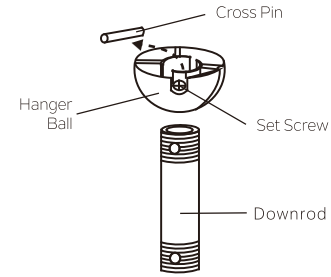

Fig. 7
**Step 5.** Remove the hanger ball from the downrod assembly by loosening the set screw, unscrewing and removing the cross pin and unscrewing the ball from the rod. (Fig. 7)